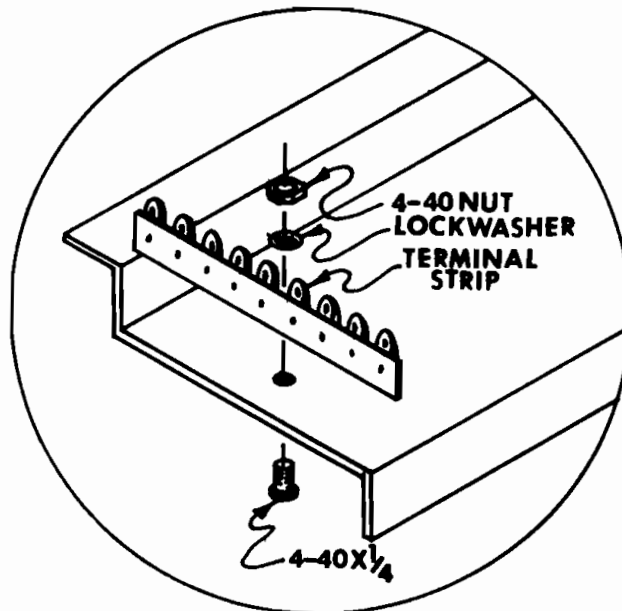

Figure 5
- () At the extreme left of the metal keyboard mainframe, note that there is a small hole which is approximately halfway between the front and rear edges of the mainframe. Using one #4-40 X 1/4" machine screw, one #4 lockwasher and one #4-40 nut, mount the 9-lug terminal strip as shown in figure 5.